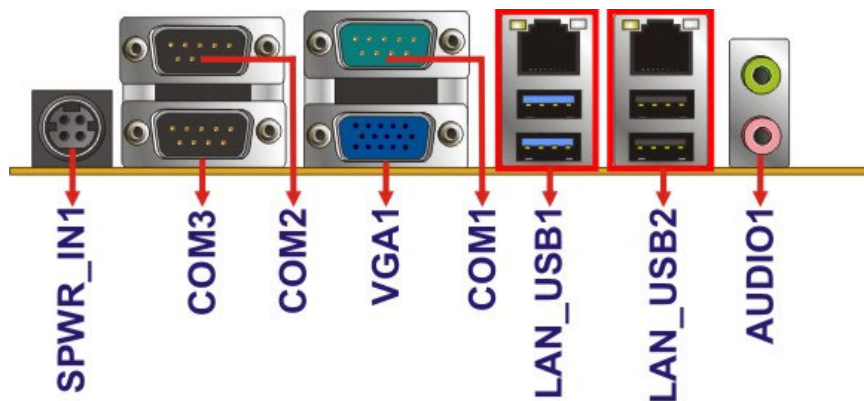

Figure 3-33: External Interface Connectors
- CN Location: See Figure 3-33
- CN Location:** See **Figure 3-33**
- CN Location:** See Figure 3-33
CN Location: See **Figure 3-33**